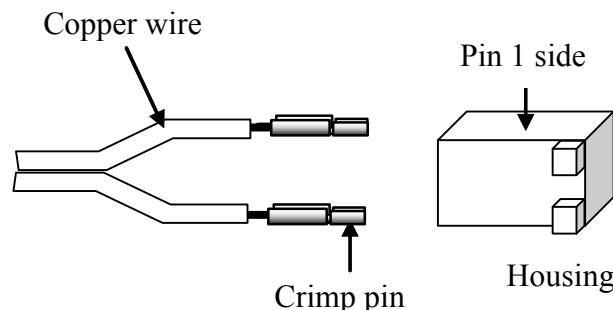

Figure 7-3
- Solder crimp pins to the two wires at one end of the 15" (38 cm) length of speaker cable (Figure 7-3).